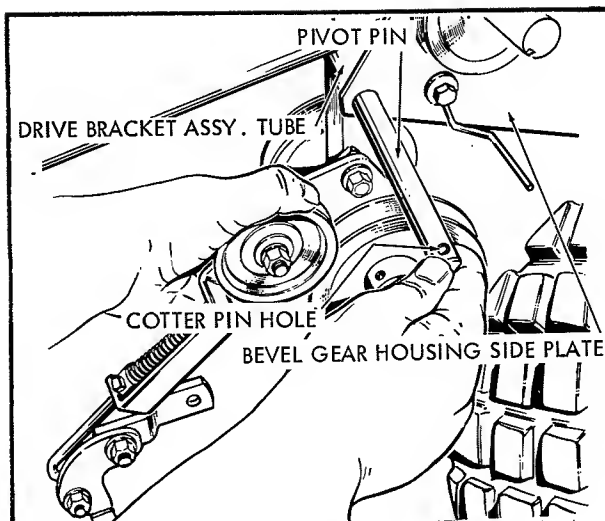

Fig. 2
2. Holding the power take-off assembly in left hand as shown in figure 2, position the tube of the drive bracket assembly between the bevel gear housing side plates. Align the holes in side plates with the hole in drive bracket assembly tube and insert pivot pin through holes in side plates and drive bracket assembly tube.